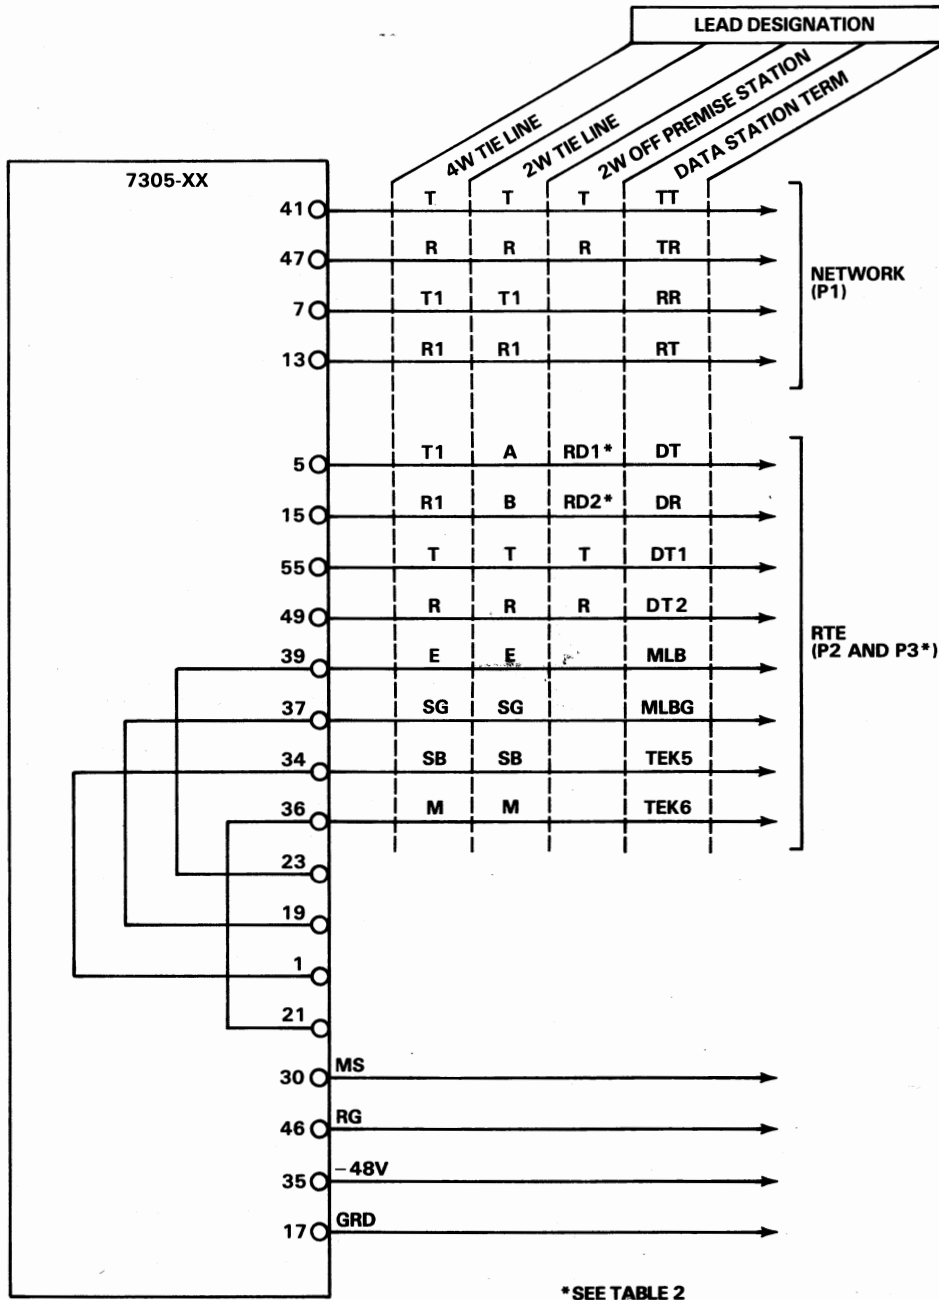

Figure 25. 7305-XX Pin Assignment
4.03 The 7305-XX pin assignments are shown in Figure 25. Due to the flexible nature of these modules, these pins may have different designations, depending on the types of circuits the TL40XX is to accommodate. Table 2 outlines the application possibilities.